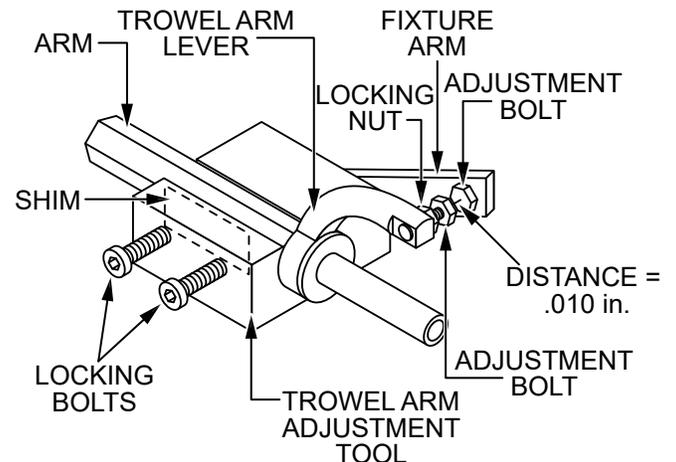

Figure 51. Trowel Arm Adjustment
4. Unscrew the locking bolts on the adjustment tool and place the trowel arm into the fixture channel as shown in Figure 51. A thin shim may be required to cover the blade holes on the trowel arm. Make sure to align the trowel arm adjustment bolt with the fixture adjustment bolt.
5. Tighten the locking bolts (Figure 51) with an Allen wrench to secure the trowel arm in place.
6. Loosen the locking nut on the trowel arm lever (Figure 51), then turn the trowel arm adjustment bolt until it barely touches (.010") the fixture adjustment bolt.